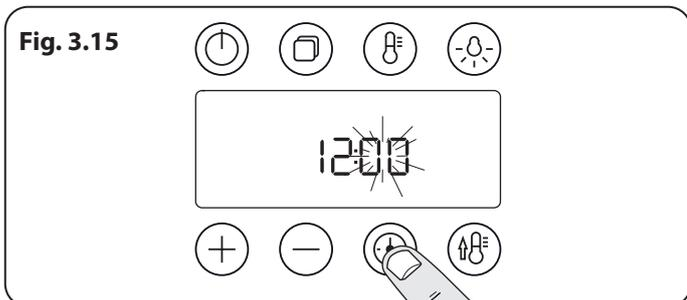

Fig. 3.15
3. Tap the 'timer' button and the minutes will flash. Use the [+] or [-] buttons to set the minutes (**Fig. 3.15**).